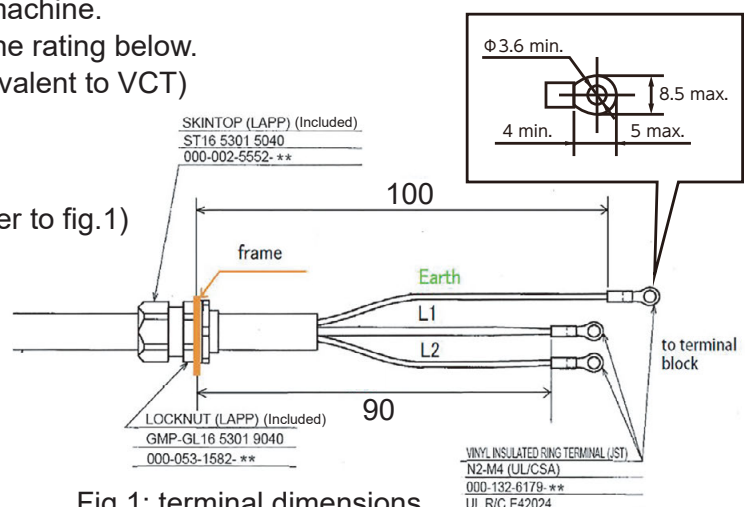

Fig.1: terminal dimensions
- Crimping terminal dimensions (refer to fig.1)